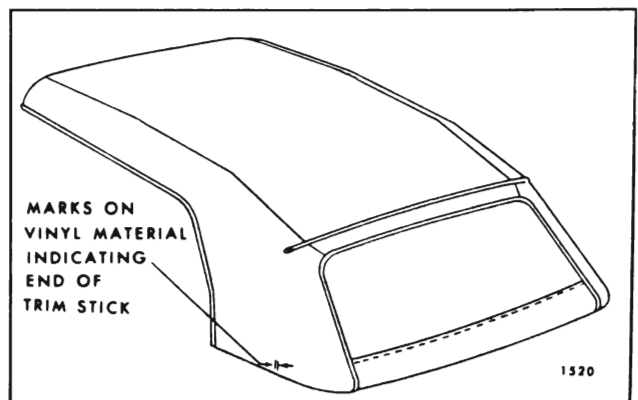

Fig. 13-36 — Marking Top Material
21. Using a pencil, mark both ends of rear and rear quarter trim sticks on vinyl surface of top material as shown in Figure 13-36.